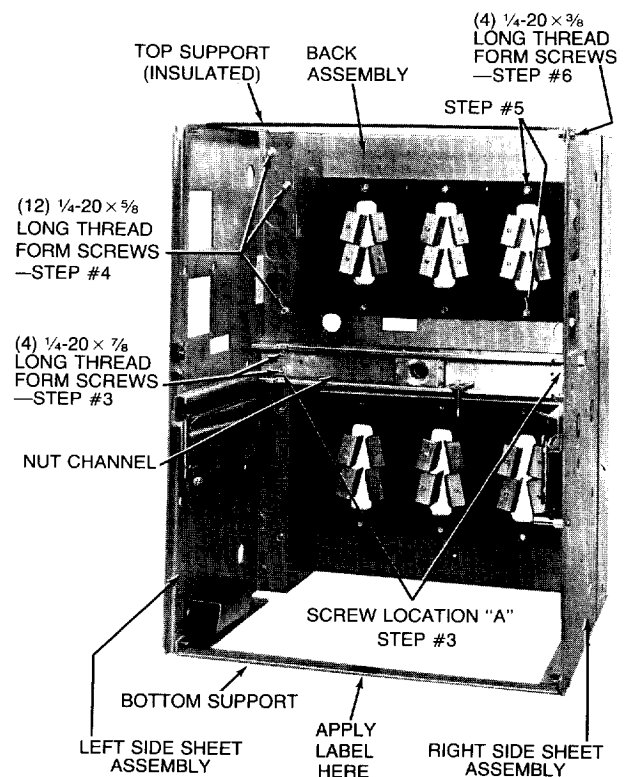

Fig. 19 4000A unit front view.
Turn the entire assembly over so the back assembly is face up. Fig. 19. Position the nut channel, as shown, and start the (4) 7/8" long thread form screws through the nut channel and into the inner flanges of the post channels. Next, tighten the two diagonally opposite screws, location "A", Fig. 19, then the two remaining screws.
Position the left side sheet assembly as shown in Fig. 19, and drive (6) 5/8" long thread form screws starting nearest the nut channel. Repeat for the right side sheet assembly.
Apply the label as shown in Fig. 19.